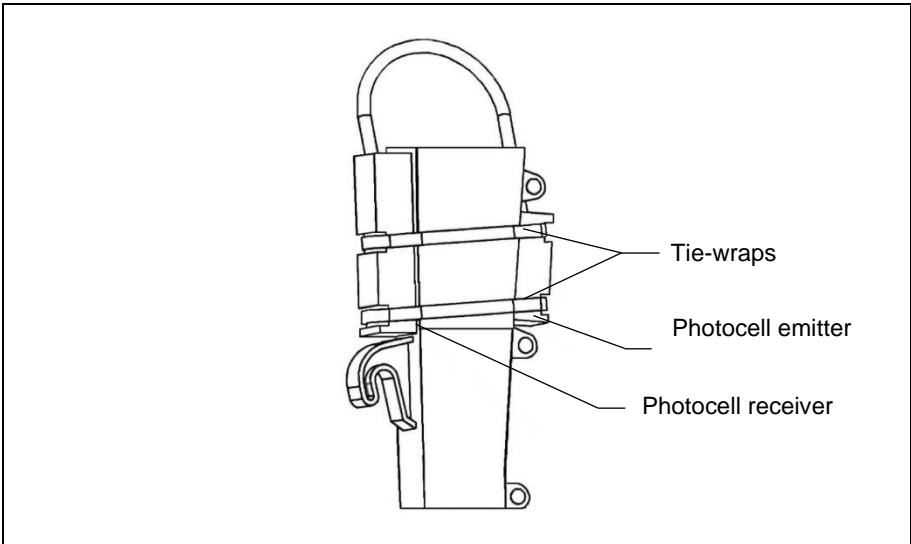

Figure 4. Example of photocell installation on seed pipe.
- If the sowing elements of the planter are "high" and come with seeding pipes, that bring seeds to the ground, you should install photocells for pipe, and should be installed at about half the length of the pipe (Figure 4).